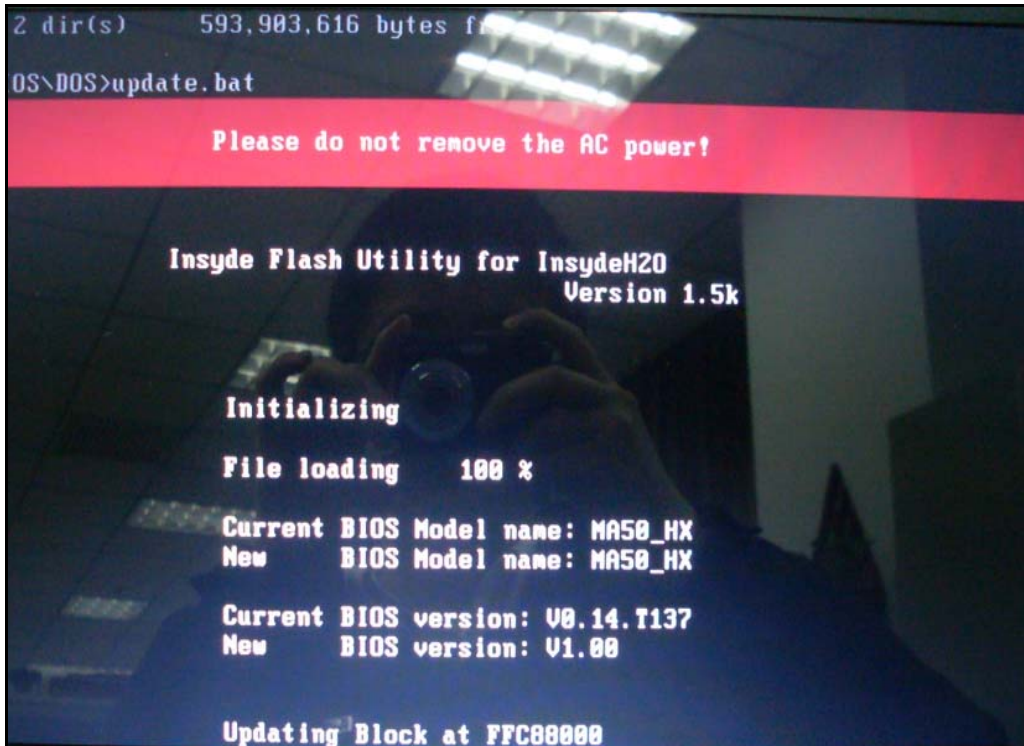

Figure 2-13. DOS Flash
3. Execute the `< UPDATE.BAT >` batch file to update BIOS. The flash process begins as shown in Figure 2-13.